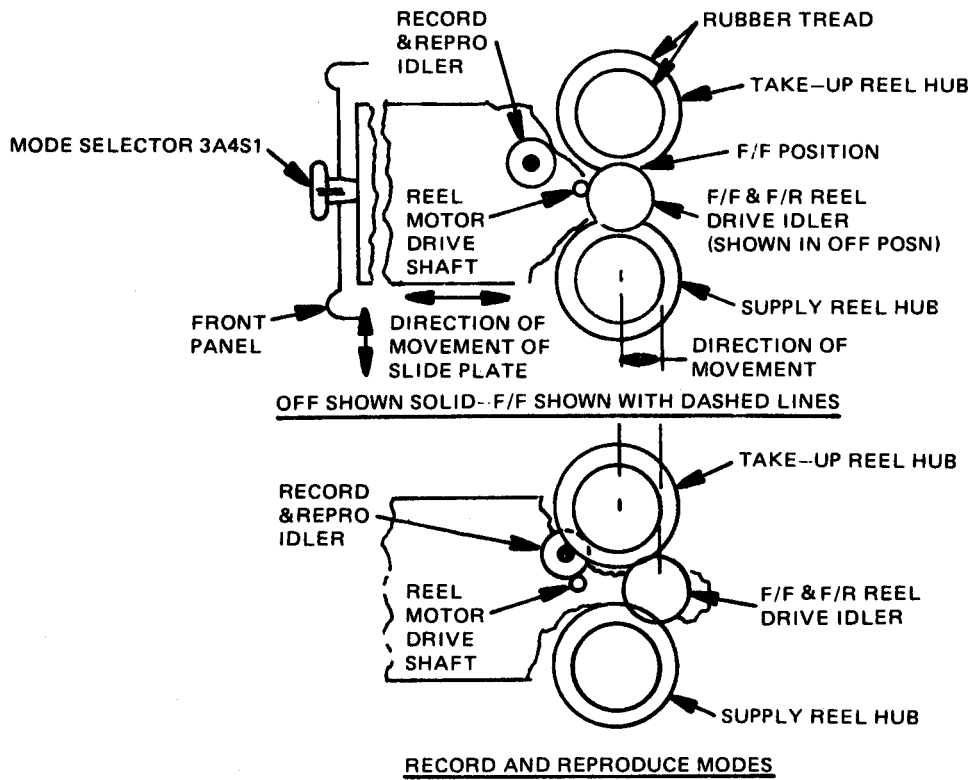

Figure 3-3. Reel Drive, Functional Schematic
(6) Reel motor drive system. Figure 3-3 is a functional schematic of the electromechanical system used to drive the tape reels (within the tape cassette). The function mode selector 3A4S1 on the front panel is physically connected to a slide plate on which idler wheels A and B are mounted. By proper positioning of the mode selector knob, the main slide plate is moved in or out and a cam plate is moved to one side or the other to engage one or the other of the idler wheels with the reel motor drive shaft and the rubber-covered reel drive hubs. Idler A is used to drive the reels in the fast forward and fast reverse modes. When the mode selector knob is in the F/R position, idler A is moved into contact with the motor drive shaft and one drive surface of the supply reel hub. The ratio of the diameters is such that the reels are driven at the selected fast speed (forward or reverse). When the mode selector knob is pushed in toward the panel and turned to the REC or REPRO position, idler A is moved out of contact with the reel hubs and idler B is moved into contact with the motor drive shaft and the take-up reel hub drive surface. This provides